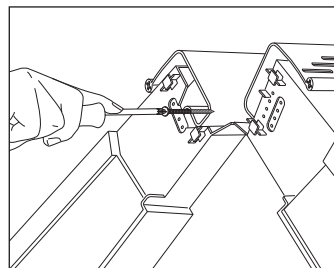

Fig. 6 – Screw verge units at apex of verge
- 10 At apex of roof, where battens are located, retain top course dry verge unit by securing a 30mm long pozidrive head screw (supplied) into second series of holes in verge unit and locate it behind nib section of dry ridge batten (Fig. 6).